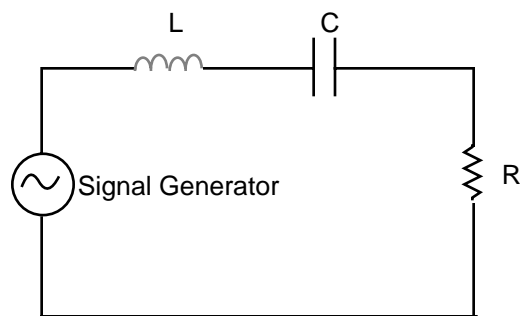

Fig. 3.1
Connect the circuit of Fig. 3.1. Choose an inductor and calculate C to give a resonant frequency between 1 kHz and 100 kHz. The resistance R should be chosen so that $Q > 2$.
- Calculate the impedance of the series LRC circuit in Fig 3.1.